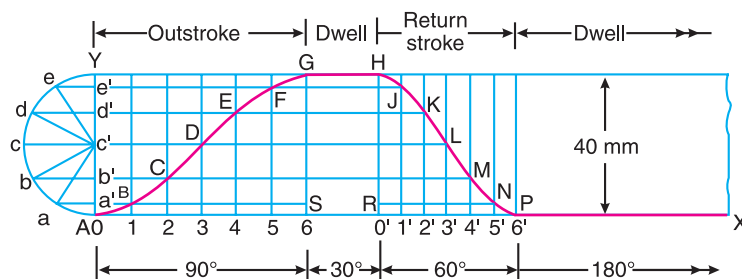

Fig. 20.13
First of all, the displacement diagram, as shown in Fig 20.13, is drawn as discussed in the following steps :
2. Draw vertical line $AY = 40 \text{ mm}$ to represent the cam lift or stroke of the follower and complete the rectangle as shown in Fig. 20.13.
6. Join the points $A, B, C ...$ etc. with a smooth curve as shown in Fig. 20.13. This is the required displacement diagram.